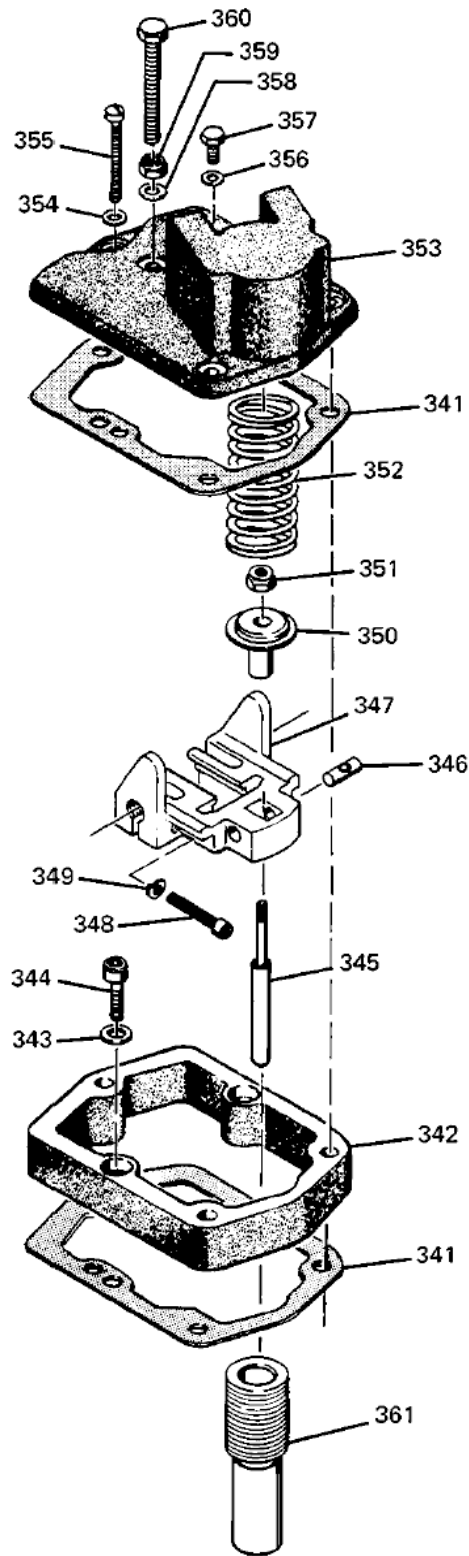

Figure 5-23. Exploded View, PSG Vertical Return Spring
Parts List for Figure 5-23
! WARNING Be careful when removing the cover on governors equipped with a vertical (in-line with power piston) return spring since the cover compresses the vertical return spring. See the exploded view Figure 5-23. Remove the power piston strut (345) and spring seat (350) with the terminal lever (347). Unless the parts are damaged it should not be necessary to separate the servo strut from the terminal lever.